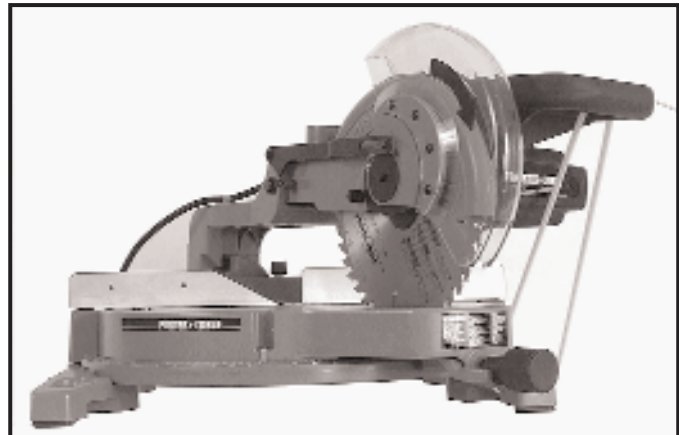

Fig. 2
4. The machine is shipped with the cuttinghead locked in the down position and the table rotated to the 45 degree right miter position, Fig. 2. To release the head and move it to the operating position see